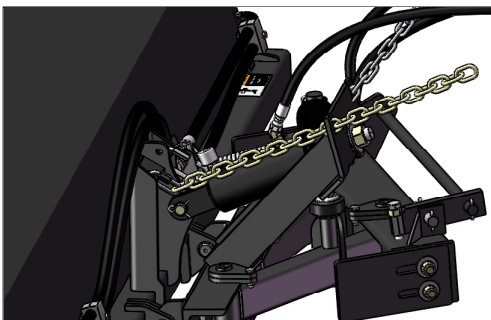

figure 3
5. Connect the transport chain, which is attached to brush head upright, to the remaining slot on the swing plate upright. Figure 3 shows a transport chain installed.